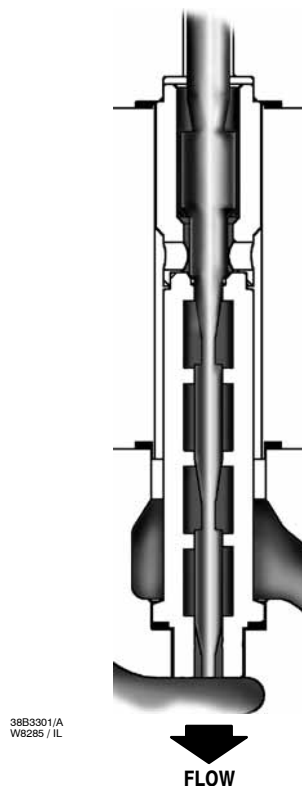

Figure 7. Multi-Stage Micro-Flat Trim
**(F)— Multi-Stage Micro-Flat**—Plug/Cage design with a series of flats on a common stem. High  $\Delta P$ 's and  $C_v$ 's down to approximately 0.01. This is a cavitation elimination trim for use on liquids. Not intended for gas service. See figure 7.
Multi-Stage Micro-Flat trim (figure 7) is a plug-characterized design with a series of flats on a common stem to provide staged cavitation control. Flow direction is typically flow down, but flow up use is possible in special cases. Consult your Fisher sales office for additional information.